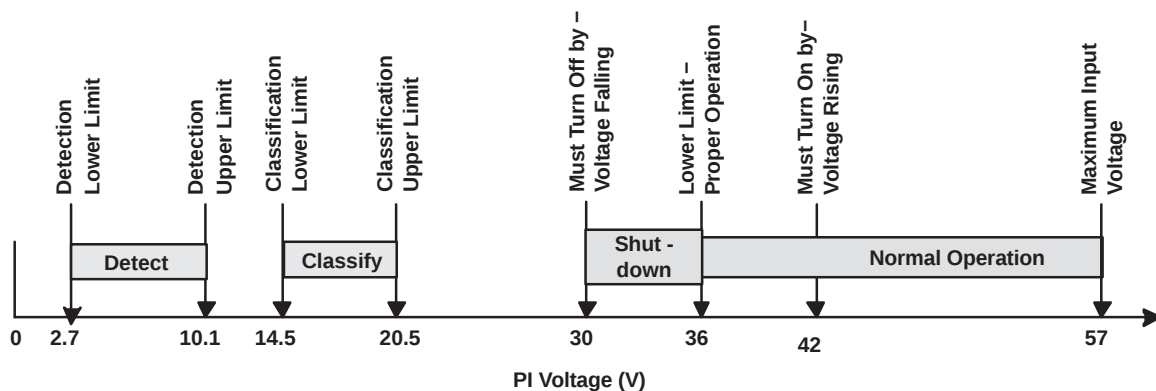
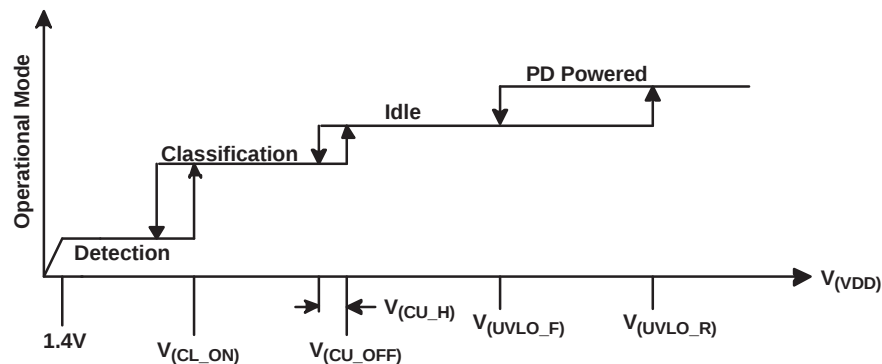

Figure 12. IEEE 802.3 PD Voltage Limits
Figure 13. Threshold Voltages
The IEEE 802.3af specification defines a process for safely providing power over an ethernet cable when a capable device is connected, and then removing power if it is disconnected. The process proceeds through three operational states: detection, classification, and operation. An unterminated cable is not powered. The PSE periodically probes the cable with low voltage, looking for a 25 k $\Omega$  signature; this is referred to as detection. The low power levels used during detection are unlikely to cause damage to devices not designed for PoE. If a valid powered device (PD) signature is present during detection, then the PSE may optionally inquire about the amount of power the PD requires; this is referred to as classification. The PD may return a default full-power signature, or one of four other defined choices. In a high-power system, class may not be required, or the levels may be redefined to suit that particular system. The PSE may use the class power to determine if it has adequate power to operate this device, and later to determine if a device is using more power than it requested. At this point in the process, the PSE may choose to power the PD. The PSE output is protected against shorts and overloads when the PD is powered. The maintain power signature (MPS) is presented by the powered PD to assure the PSE that it is present. The MPS is either a minimum dc current, a maximum ac impedance, or both. When the MPS disappears, the PSE removes power and returns to its initial state. Figure 12 shows the operational states as a function of PD input voltage range as defined in IEEE 802.3af.
In order to implement the defined PoE functions shown in Figure 12, the TPS2376-H has a number of internal comparators with hysteresis for stable switching between the various states. Figure 13 relates the parameters in the Electrical Characteristics section to the PoE states. The mode labeled *idle* between classification and PD powered implies that the DET, CLASS, PG, and RTN pins are all high impedance.
The classification process applies a voltage between 14.5 V and 20.5 V, for a maximum of 75 ms, to the input of the PD, which in turn draws a fixed current set by  $R_{(CLASS)}$ . An 802.3af PSE measures the PD current to determine which of the five available classes (Table 1) that the PD is signaling. The total current drawn from the PSE during classification is the sum of bias currents and current through  $R_{(CLASS)}$ . The TPS2376-H disconnects  $R_{(CLASS)}$  at voltages above the classification range to avoid excessive power dissipation (Figure 12 and Figure 13).
The TPS2376-H incorporates an undervoltage lockout (UVLO) circuit that monitors line voltage to determine when to apply power to the downstream load and allow the PD to power up. The IEEE 802.3af specification dictates a maximum PD turn on voltage of 42 V and a minimum turn-off voltage of 30 V (Figure 13). The UVLO pin provides the flexibility to adjust the turn on and turn off to the IEEE 802.3af limits, or a custom set. Design the turn-on for 39.5 V if a design which uses the IEEE 802.3af limits is desired.